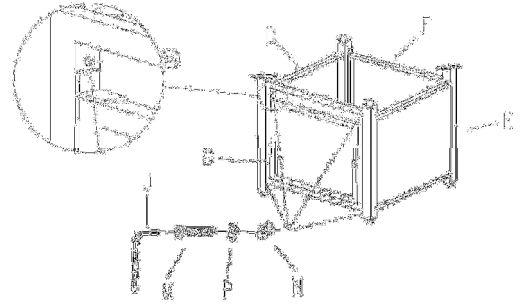

Figure 3
3. Attach the door frame (G) to the left side (D) and right side (E) with 4 bolts  $\frac{1}{4}$  in x 15 mm (M), 4 flat washers (N) and 4 spring washers (P) by using the Allen wrench (J), (see Figure 3).